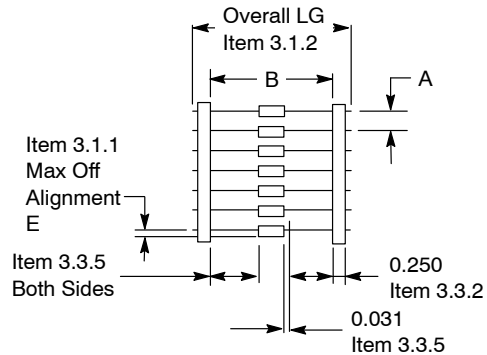

Figure 64. Component Spacing
3.1.1 – Component leads shall not be bent beyond dimension E from their normal position. See Figure 64.
3.1.2 – The "C" dimension shall be governed by the overall length of the reel packaged component. The distance between flanges shall be 0.059 inch to 0.315 inch greater than the overall component length. See Figures 64 and 65.
3.3.2 – Component's leads shall be positioned perpendicularly between pairs of 0.250 inch tape. See Figure 64.